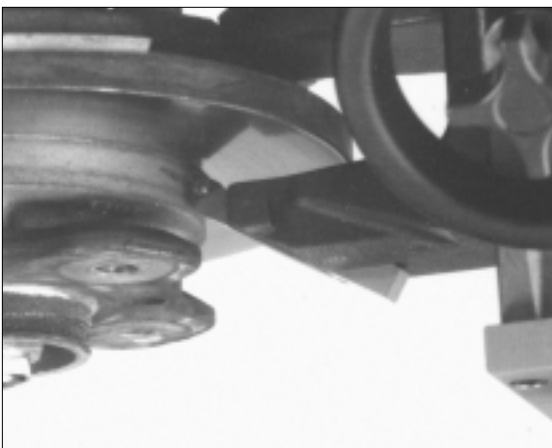

Figure 14
6. Double check the positions of the cutting bits relative to the rotor. Each should clear the rotor to allow travel to the inner diameter of the braking surface, Fig. 14.